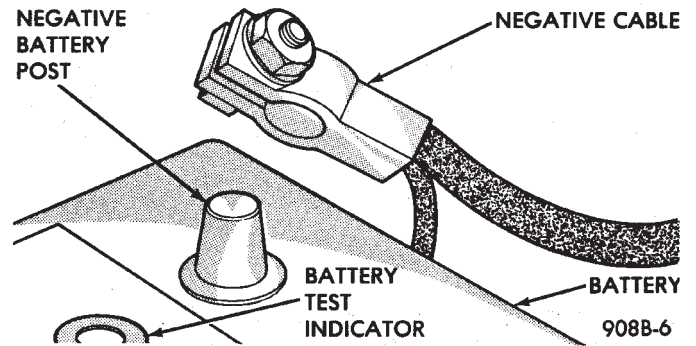
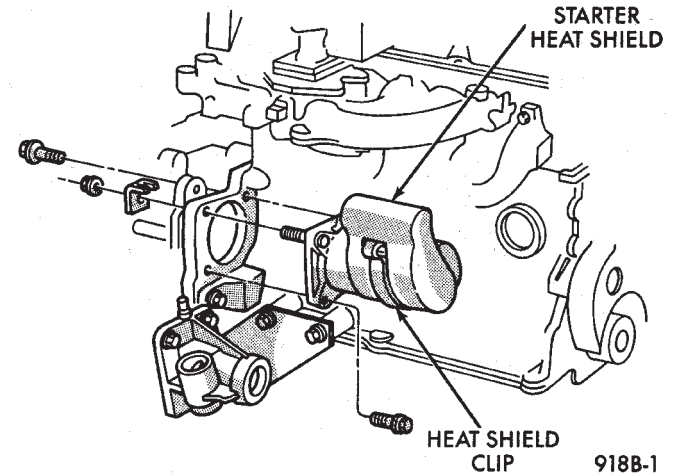
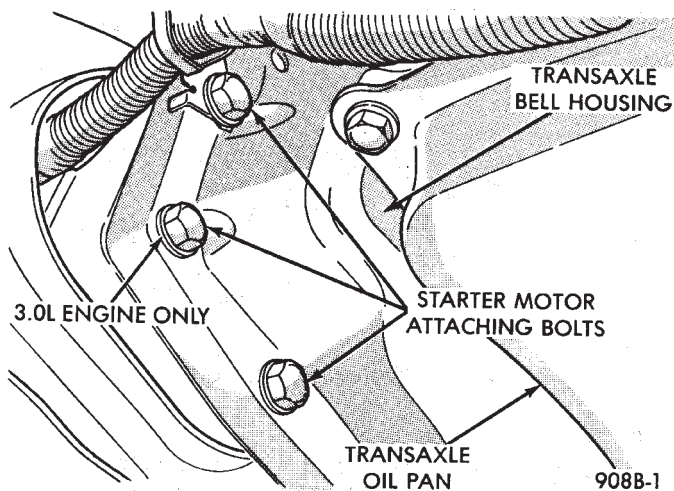

Fig. 1 Remove or Install Battery Cable
Fig. 2 Starter Heat Shield—4 Cylinder Engines
Fig. 4 Remove or Install Attaching Bolts
- (1) Disconnect negative battery cable (Fig. 1).
- (2) Raise vehicle.
- (3) Remove heat shield clip from the starter and heat shield (Fig. 2). For easier servicing, do not remove the wiring from starter at this time.
(1) Disconnect negative battery cable (Fig. 1).
(2) Raise vehicle.
(3) Remove three starter attaching bolts from engine/transaxle (Fig. 4).